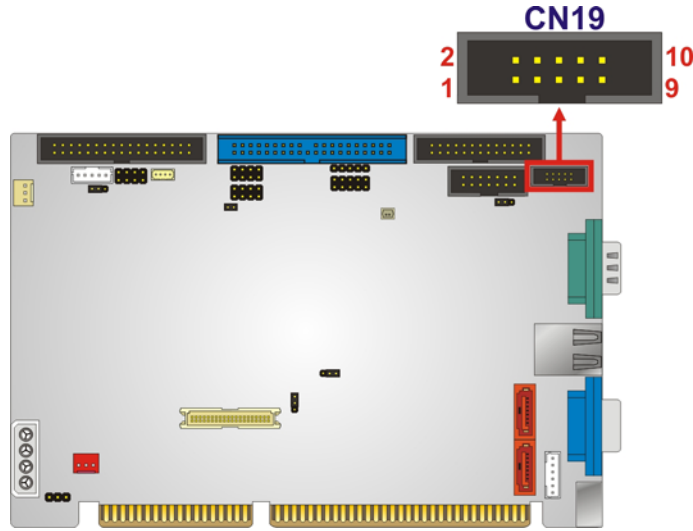

Figure 3-3: Audio Connector Pinouts (10-pin)
- CN Location:** See Figure 3-3